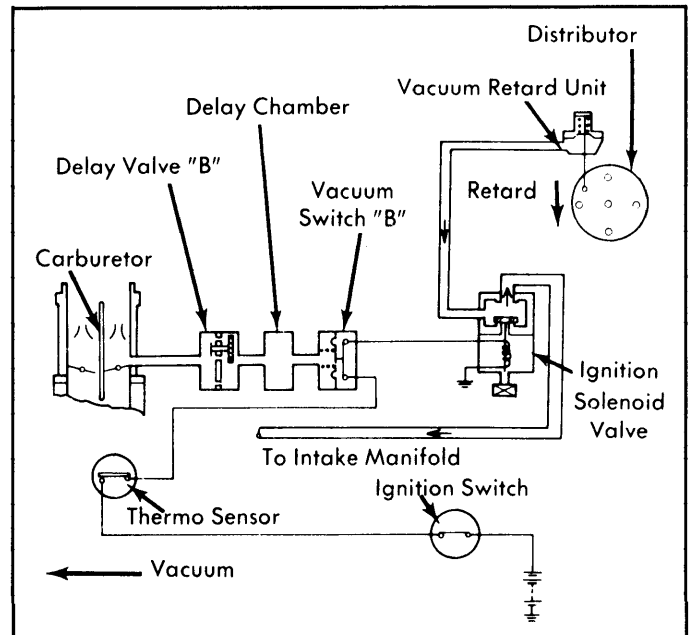

Fig. 3: 1977 Ignition Timing Control System (Auto. Trans.)
**1977 Automatic Transmission Equipped Models** - 1) With engine cold, start engine and check for vacuum at distributor retard vacuum unit. There should be no vacuum present. If vacuum is present, disconnect thermo sensor. If vacuum remains, replace ignition solenoid valve. If vacuum drops slightly, replace thermo sensor. See Fig. 3.